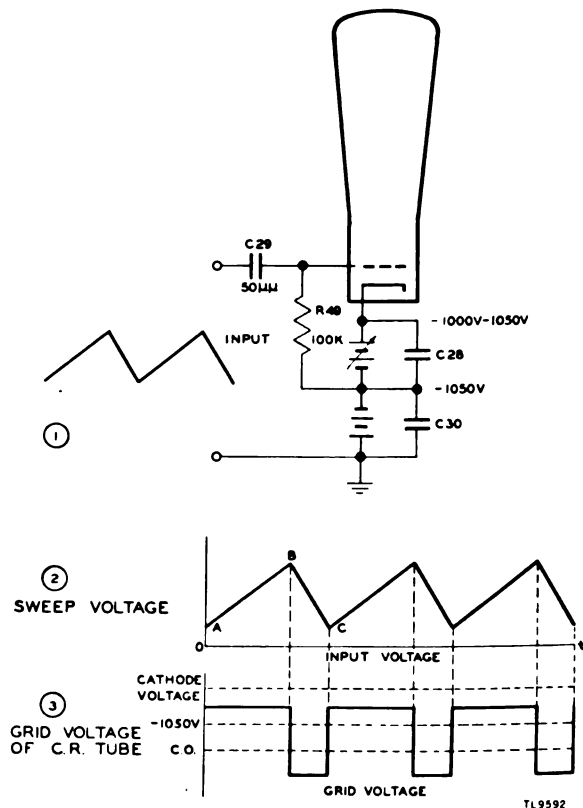

Figure 20. Blanking circuit, simplified schematic diagram.
d. Blanking Circuit. A saw-tooth output from the cathode of V8 is taken through C29 to the grid of the cathode-ray tube for blanking out the sweep during the return trace. The operation of this circuit is illustrated in figure 20. Capacitor C29 and resistor R49 have a small time constant and constitute a differentiating circuit since the output is taken from across the resistor. Ca-